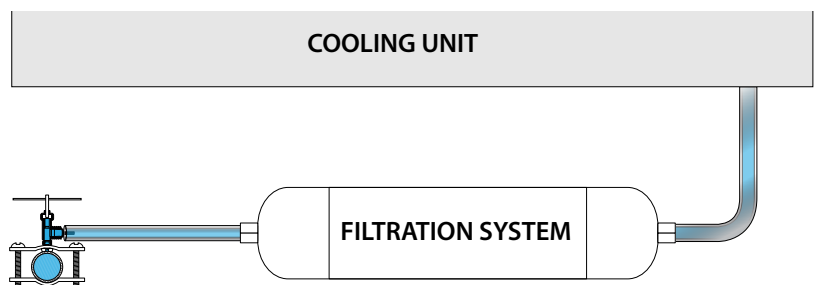

Figure 2
- The water supply should pass through either a Water-Softener or a Filtration system before reaching the unit as shown in **Figure 2**.